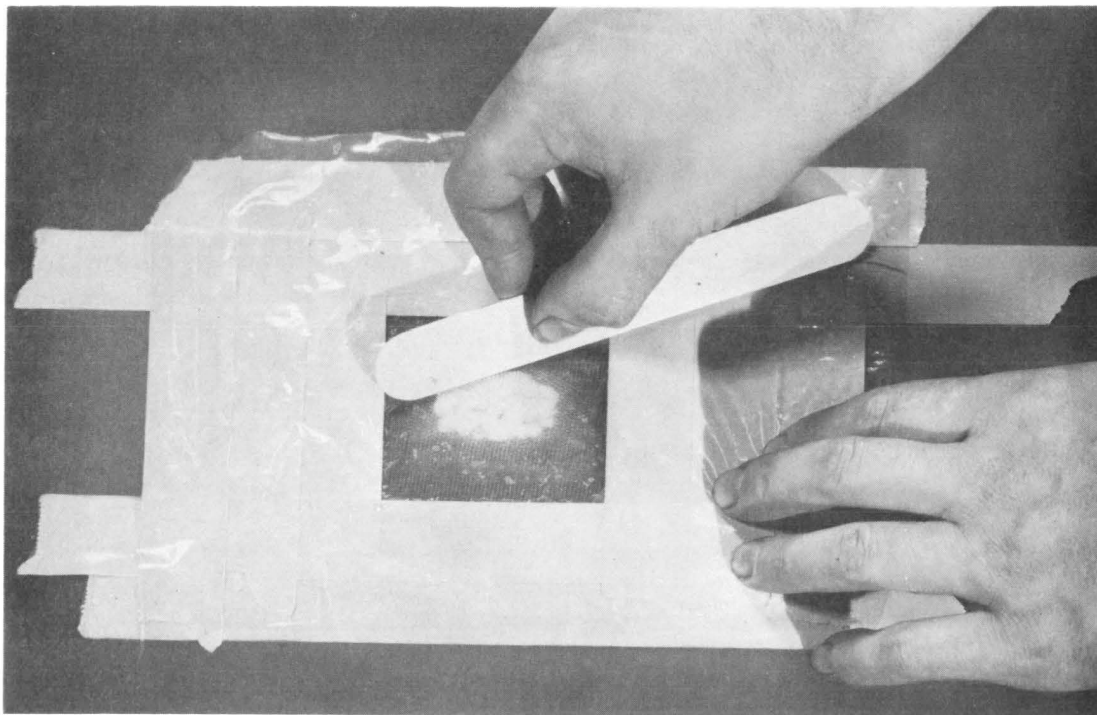

Fig. 16—Paddling or Scraping Patch to Remove Air and Excess Resin
5.11 ♦ Work patch in such a manner (Fig. 16) as to remove excess resin and entrapped voids.♦